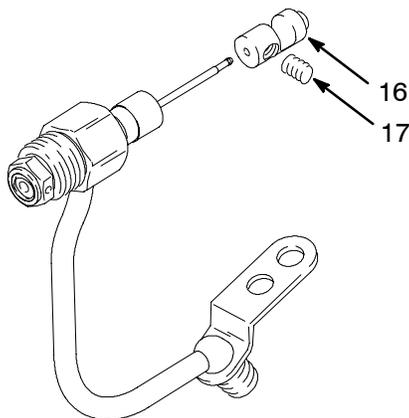

Fig. 11 04734
- While supporting the spring guide (16) to prevent bending the needle, loosen the setscrews (17). Remove the spring guide (16). See Fig. 11.